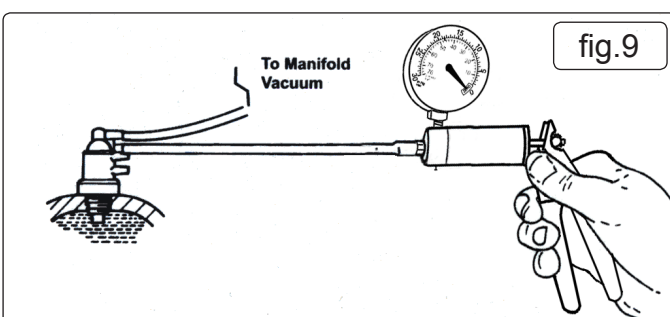

fig.9
7.3.2. To test this type of switch, remove the vacuum supply line coming from the manifold to the switch and test for manifold vacuum. If this vacuum is correct refit the supply line to the thermal switch and remove the opposing line from the switch. Attach the VS4021 vacuum tester to the port (fig.9) and start the engine. With a cold engine no reading should be noted. When the engine reaches normal operating temperature a manifold vacuum reading should be noted.